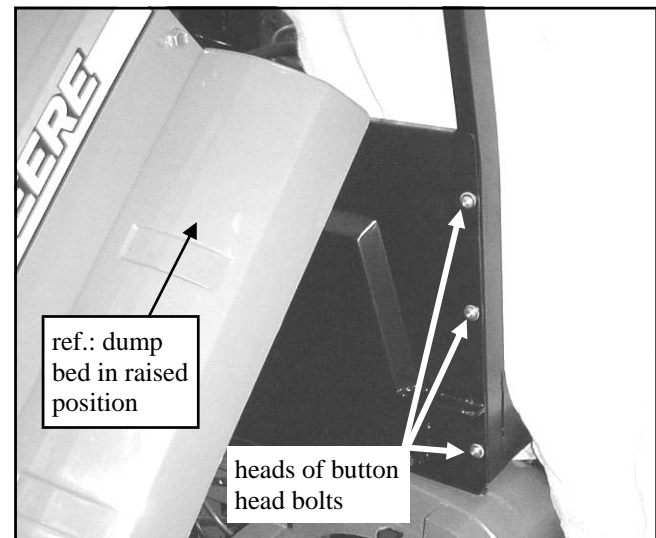

Fig. 8.2
8.2 Attach the lower rear panel to the back of the side frames using three button head bolts  $5/16 \times 3/4$ " long, three plastic washers, and three steel washers. Reminder: plastic washers have been supplied to provide a weather seal under the heads of all exterior bolts. Note: the back of the side frame has factory installed threaded inserts. See fig. 8.2.